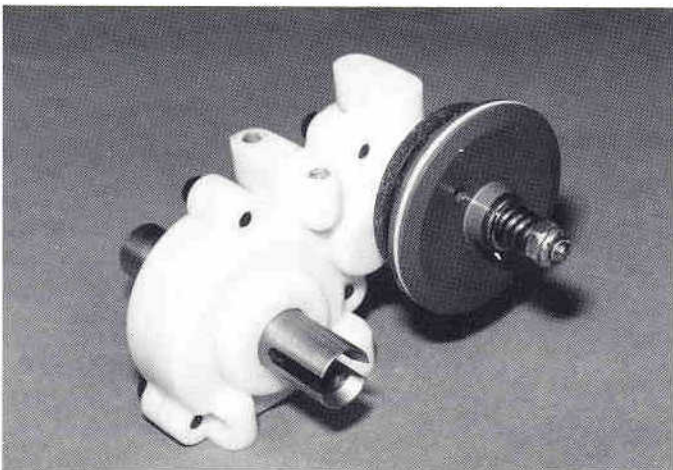

Fig. 90
- **Fig. 90** Here is the completed torque clutch and brake disc assembly.